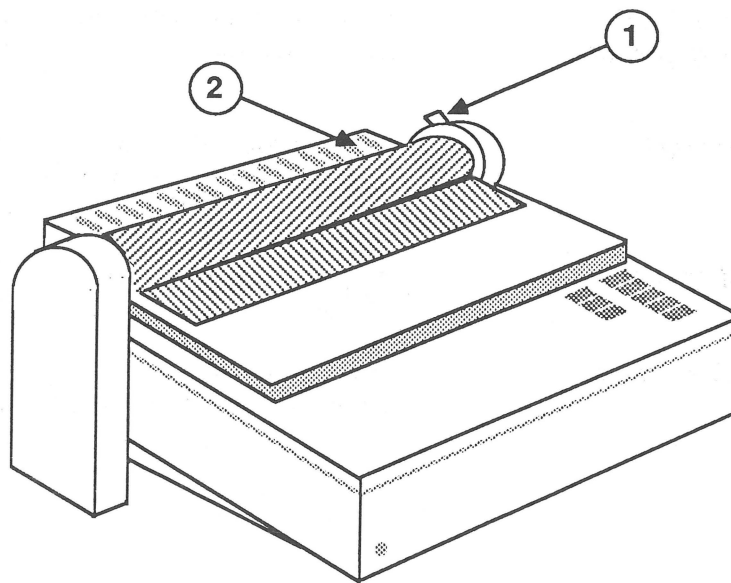

FIGURE 1
SF-IPL.3	Overview (Figure 1)
2. Pull the paper release lever forward (Figure 1, #1).
3. Lift up and remove the tractor cover (Figure 1, #2).